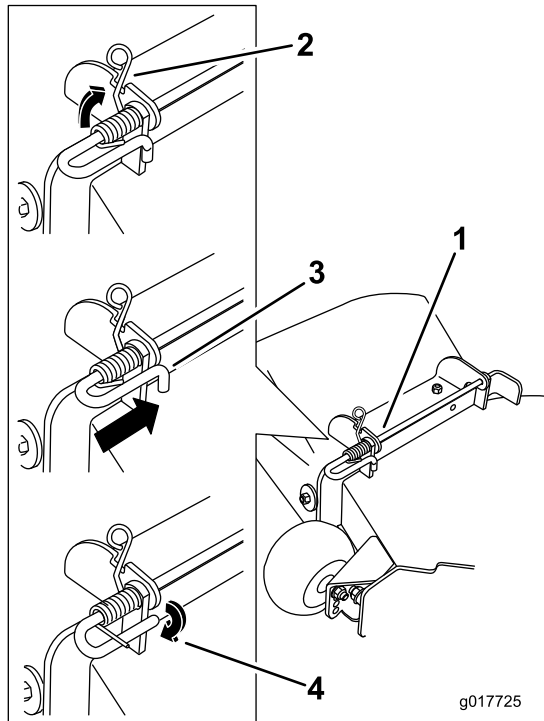

Figure 75
4. Lift the loop end of the spring and place it into the notch on the deflector assembly bracket (Figure 75).
5. Secure the rod and spring assembly by twisting it so the short end of the rod can be placed behind the front bracket welded to the deck (Figure 75).